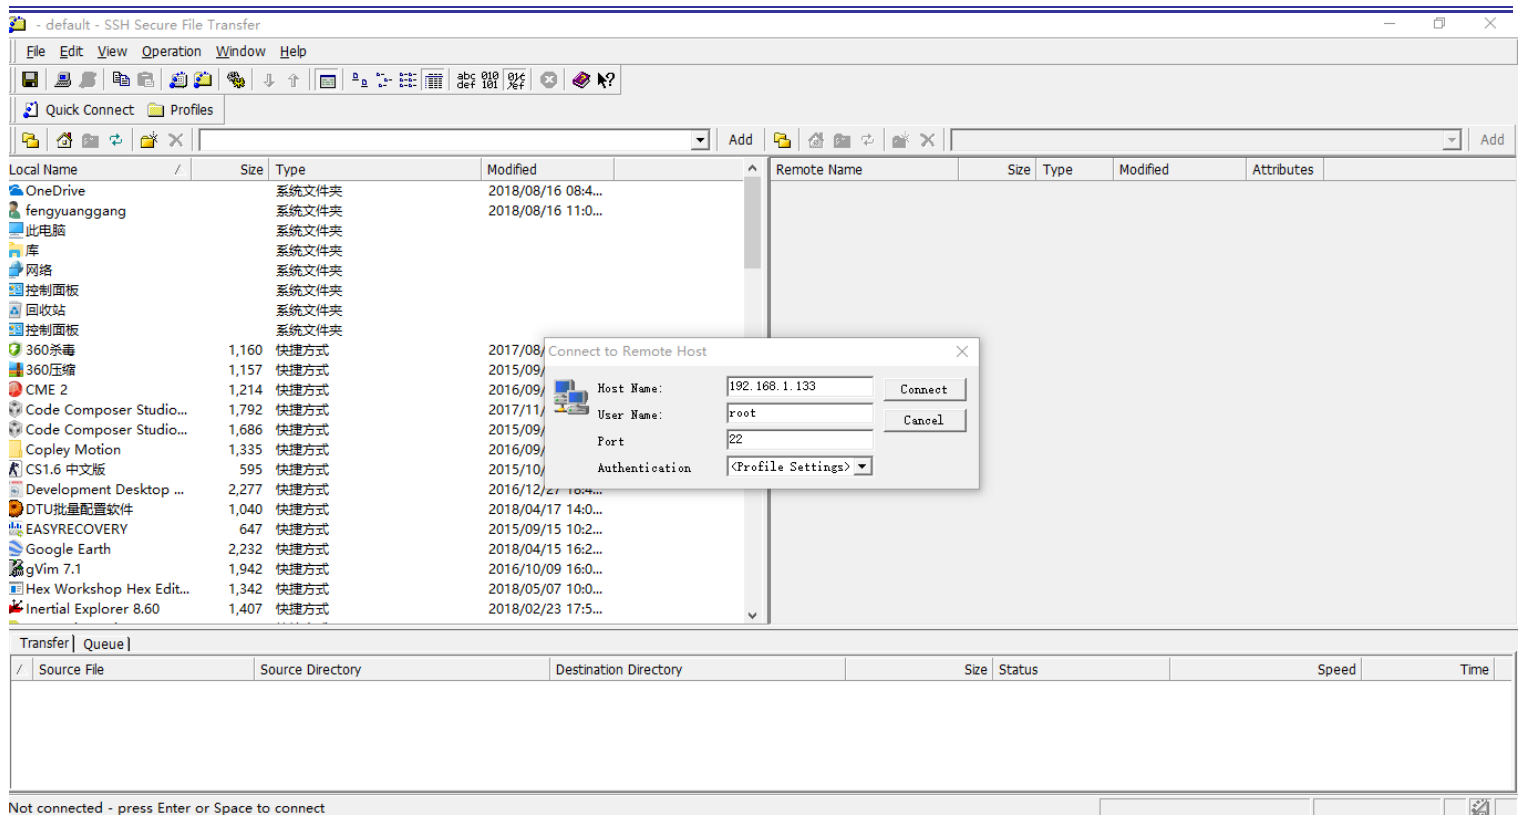

Figure 4 SSH software connection diagram
- Click Quick Connect and fill in the contents as shown in Figure 4;